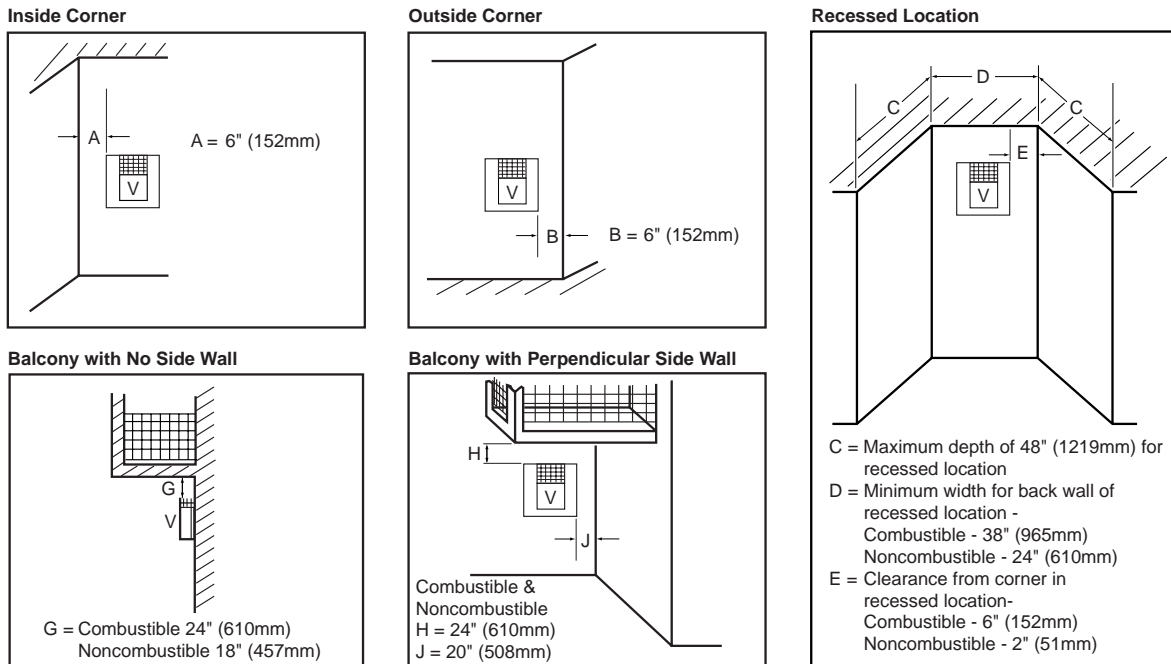

Figure 13 - Minimum Clearances for Vent Terminations
When locating vent termination, it is important to observe the minimum clearances shown in Figure 13, page 6. You will avoid extra framing by positioning your fireplace against an already existing framing member. The sides of the fireplace may be positioned directly against combustible walls.
1. Determine the route your vertical venting will take. If ceiling joists, roof rafters, or other framing will obstruct the venting system, consider an offset (see Figure 24) to avoid cutting loadbearing members. *Note:* Pay special attention to these installation instructions for required clearances (air space) to combustibles when passing through ceilings, walls, roofs, enclosures, attic rafters, etc. Do not pack air spaces with insulation. Also note maximum vertical rise of the venting system and any maximum horizontal offset limitations. Offsets must fall within the parameters shown in Figure 13 on page 6.